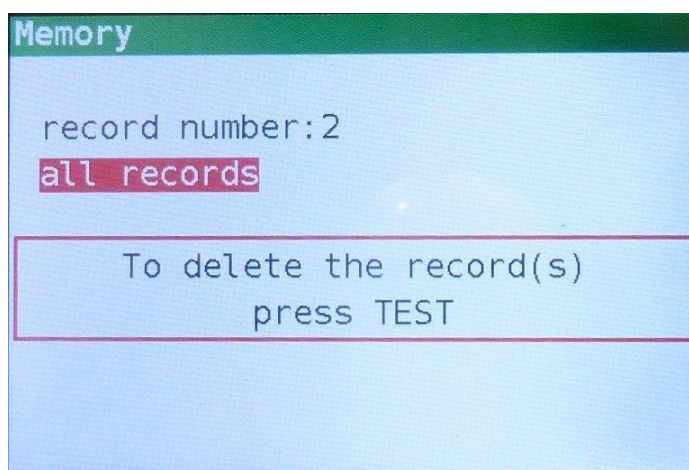

Figure 8.9: delete screen
- Step 5** Press the **DOWN** key to select all records (Figure 8.9)